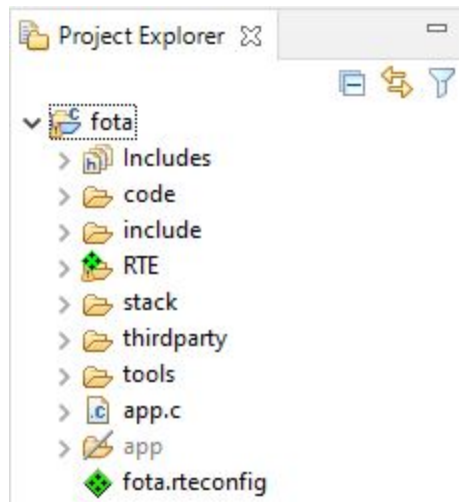

Figure 13. Copying the Project
1. Import the source code project. Navigate to **File > Import > General > Existing Projects into Workspace**, set the **Select root directory:** option with the path to the source code `<cmsis_pack_root>\ONSemiconductor\<device>\<version>\firmware\source\lib\fota`, mark the checkbox **Copy projects into workspace**, and click **Finish**. The project appears in the left side of **Project Explorer**, as shown in the "Copying the Project" figure (Figure 13).